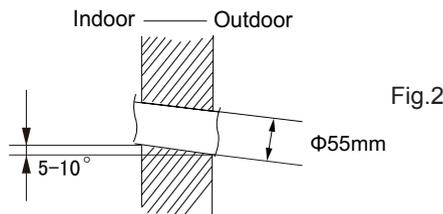

Fig.2
(2) Open a piping hole with the diameter of $\Phi 55\text{mm}$ on the selected outlet pipe position. In order to drain smoothly, slant the piping hole on the wall slightly downward to the outdoor side with the gradient of $5\text{--}10^\circ$. (As show in Fig.2)